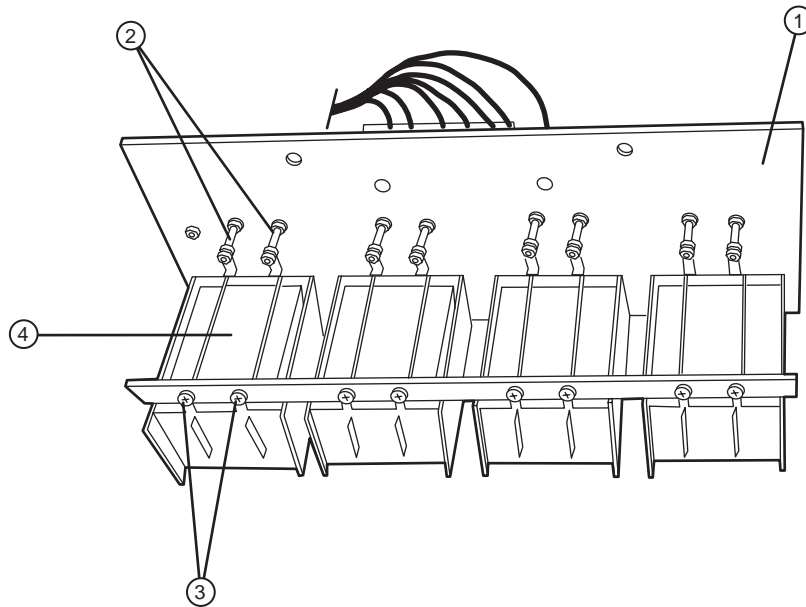

Figure 3-18 Dryer assembly (from the rear).
①—Dryer assembly. ②—Element mounting screws.
③—Rear element mounting bolts. ④—Dryer element.
7. From the rear, remove the two (2) element mounting bolts. Refer to Figure 3-18.
8. From the front, remove the two (2) element mounting screws. Refer to Figure 3-18.